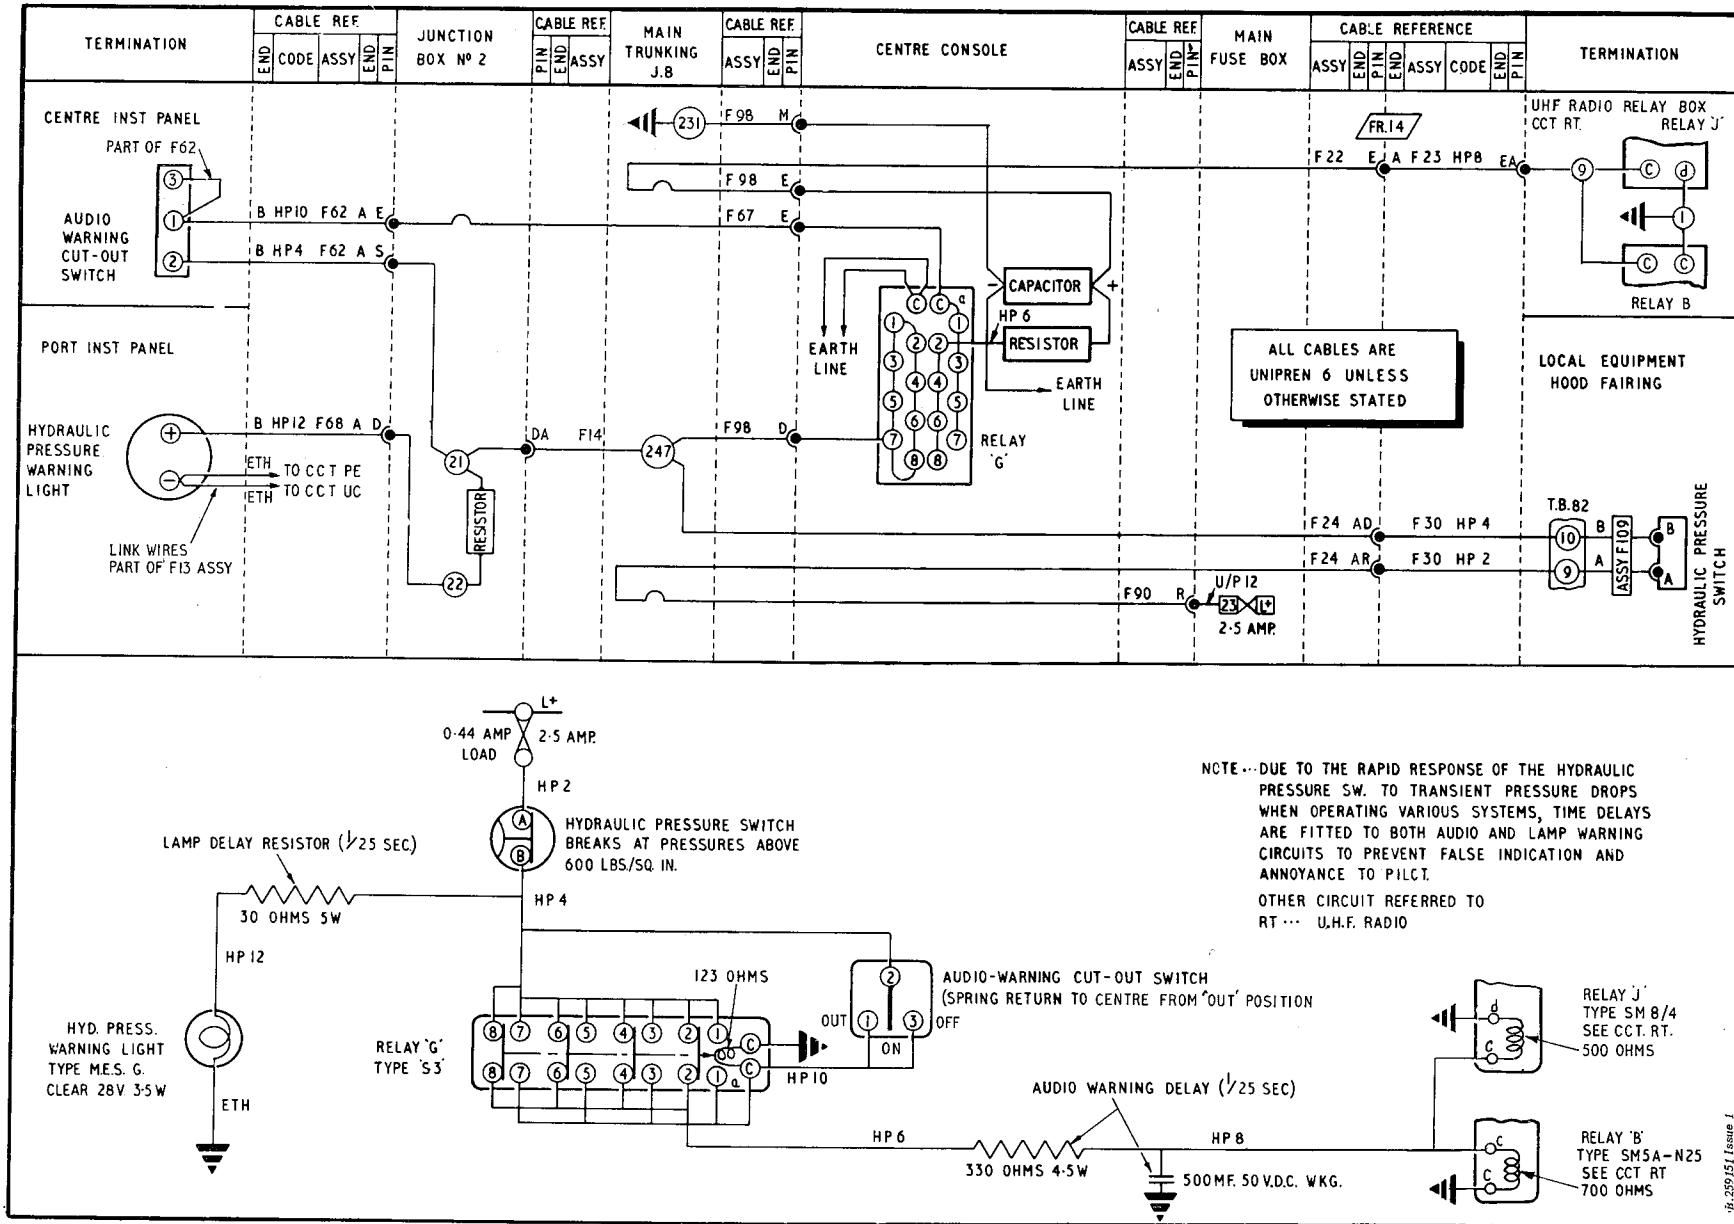

Fig.4. Hydraulic pressure warning (routeing and theoretical)
9. These warning devices are controlled by a pressure switch in the hydraulic pipeline in the hood fairing. The switch contacts close when the system pressure drops below 600 lb./sq.in., but to prevent annoyance by the warning devices operating due to transient pressure drops while hydraulic services are functioning, resistance and capacity delay networks are provided in the supply lines. The supply to the audio warning is taken through relay G in the centre console, and is cut off when the relay is energized through a single pole, centre ON, switch on the centre instrument panel. Once energized, relay G forms its own hold-on circuit, supplied through the hydraulic pressure switch. The cut out switch has a spring return to centre ON from the OUT position so that in the event of hydraulic pressure being restored the system is returned to the normal condition to indicate any subsequent pressure failure. Selecting OFF at the cut out switch completely overrides the audio warning. The supply to the warning lamp is controlled by the pressure switch only and is unaffected by the operation of the cut out switch. A routeing and theoretical diagram of the warning devices will be found in fig.4.